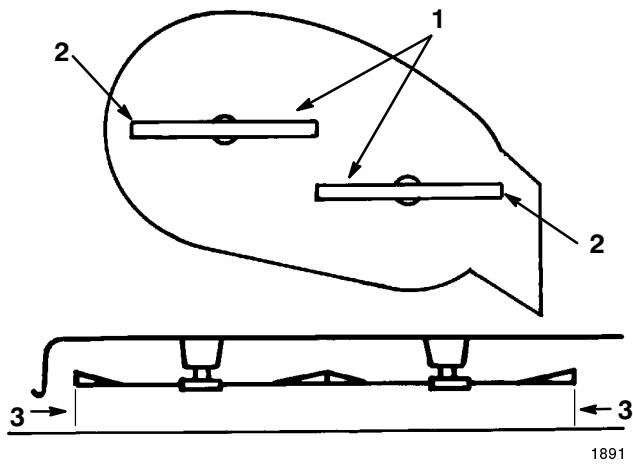

Figure 50
4. Carefully rotate the blade(s) side to side (Fig. 50). Measure between the outside cutting edges and the flat surface (Fig. 50). If both measurements are not within 3/16 in. (5 mm), an adjustment is required; refer to steps 5 and 6.